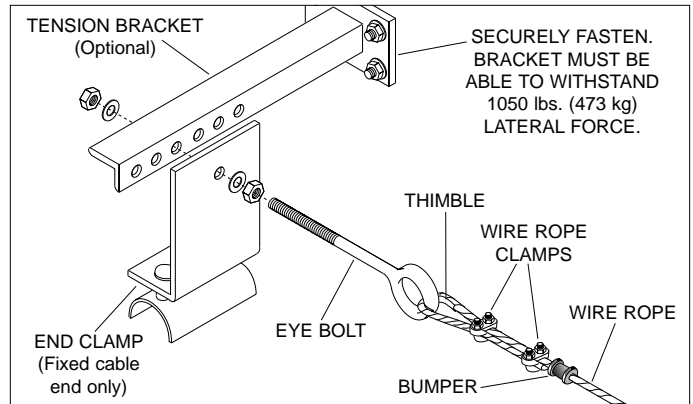
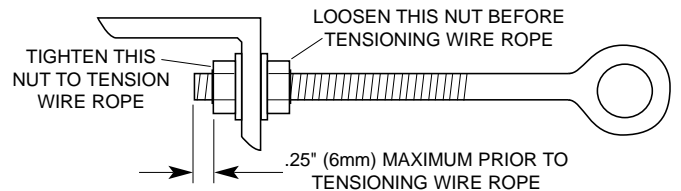

Figure 2
Figure 3
STEP 1– Mount tension brackets or other suitable device for holding stretched wire rope. See Figure 2, right, and Installation Diagrams, following pages.
STEP 2– Install eye-bolt and end clamp to tension bracket on **fixed cable end** of system. See Figure 2. Eye-bolt should protrude maximum 0.25"(6mm) thru nut (Fig. 3).
STEP 6–Thread wire rope through eye-bolt on **moving cable end** of system. Install thimble in loop. Secure wire rope with two (2) cable clamps. Do not install rubber bumper. It goes on **fixed cable end** only. Turn one hex nut onto eye-bolt and install flat washer. See Figure 3.
STEP 8– Slide rubber bumper onto other end of wire rope. Thread wire rope through eye-bolt installed in step 2. Install thimble in loop. Pull wire rope as tight as possible. Secure wire rope with two (2) cable clamps. See Figure 2.
STEP 9– Tighten wire rope by turning nuts on eye-bolts. See Figure 3. Use formula, Figure 4, to determine tension and sag.